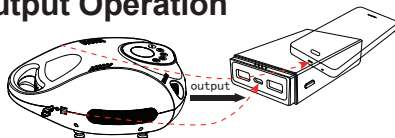

Figure4
- * In standby or power-on mode, connect one end of the USB cable to the USB/Charger Port on the pump and connect the other end to a USB port on your phone or other digital product. (as shown in Figure 4)